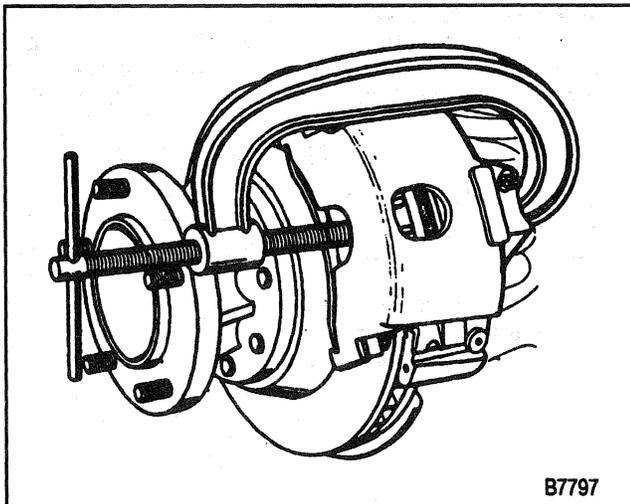

Figure 3—Compressing the Caliper Piston
↔ Remove or Disconnect (Figures 3 through 6)
5. Position a C-clamp and tighten until piston bottoms in bore (Figure 3).